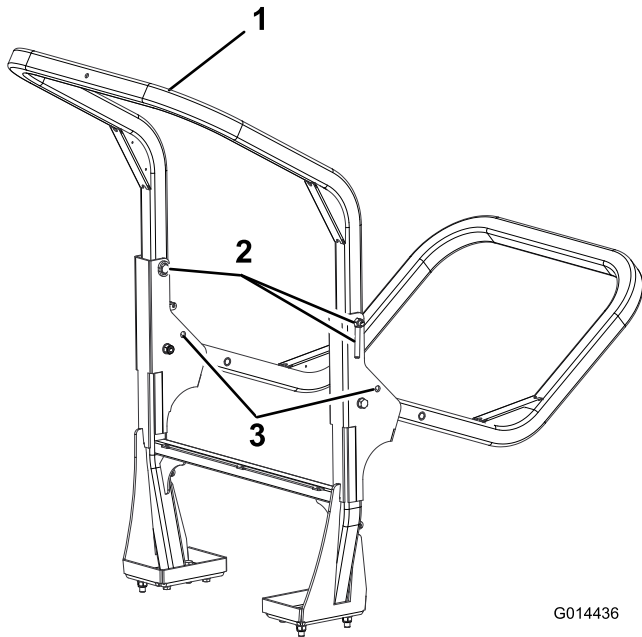

Figure 33
2. Support the weight of the upper frame while removing the hand nuts, washers and retaining bolts from the pivot brackets (Figure 33).